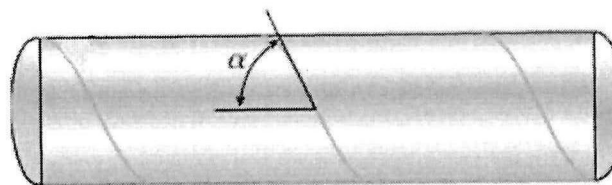

Figure Q5
- Q5** A cylindrical pressure vessel shown in **Figure Q5** has an inner radius of 0.6 m and wall thickness of 18 mm . It is made from steel plates. Take $E_{st} = 200 \text{ GPa}$, $\nu_{st} = 0.3$.